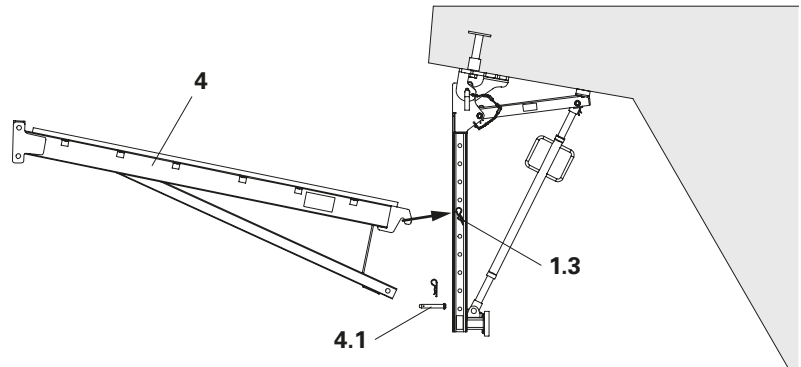

Fig. B2.01
3. Attach the platform beam (4) to the Pins Ø16x90 mm coat (1.3).
4. Secure with the lower Pin Ø16x90 mm coat (4.1). (Fig. B2.01)